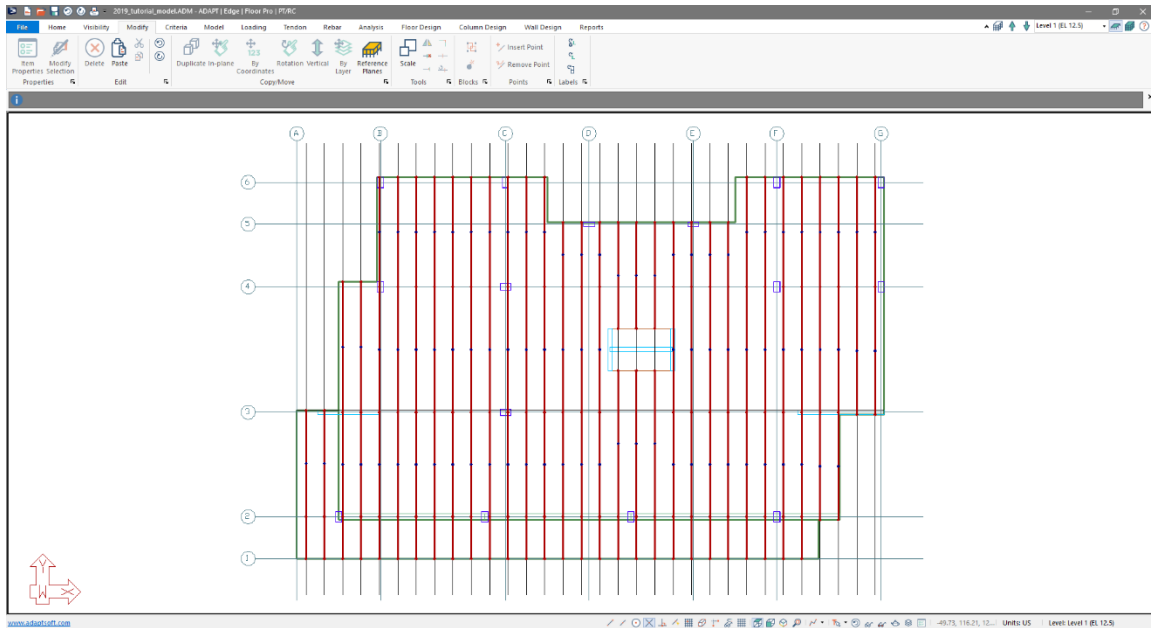

Figure 9-65
- Once you have completed modeling and copying the master tendons click on the **Top View**  icon in the **Bottom Quick Access Toolbar**. This will bring you to the view of the model shown in **FIGURE 9-65**.